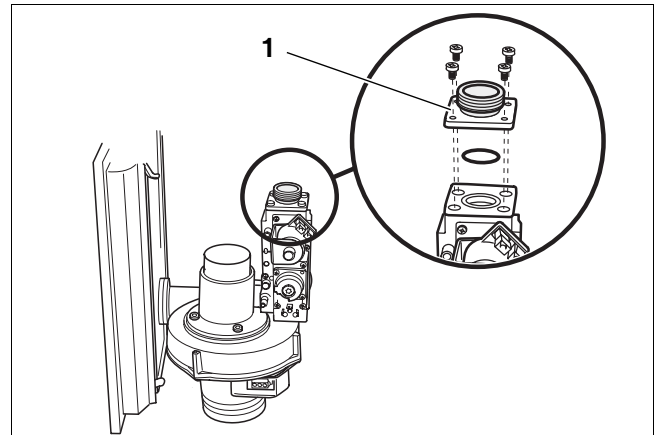

fig. 13 Installing the gas flange
- Install the gas flange from the natural gas assembly on the new gas valve (fig. 13, **pos. 1**).